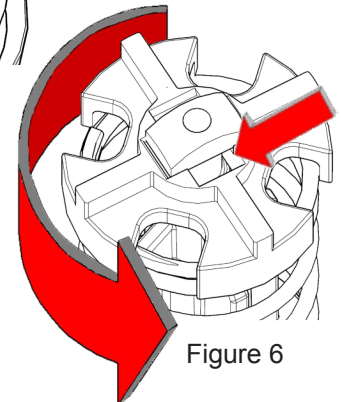

Figure 6
6. Move switch lever to the "OFF" (lowered) position (Figure 6) to stop the motor.
3. Rotate the bypass valve retainer 90 degrees clockwise and allow the spring to gently push it back up to contact the locking tab. The locking tab **MUST** be seated in the indentation in the bypass valve retainer (Figure 6).